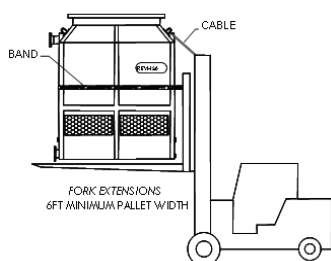
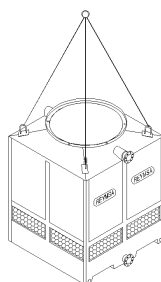
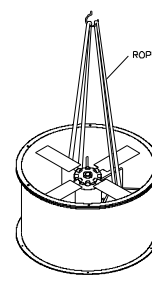

Figure A-3: Single Fan Tower Fork lifting
Figure A-4: Single Fan Tower Lifting
Figure A-5: Fan Duct Lifting
- B. After assuring the equipment is received in proper conditions, proceed to unload it off of the transportation vehicle, piece by piece, with a crane or forklift of the appropriate capacity (see Figure A-3, Figure A-4 and Figure A-5 for examples).